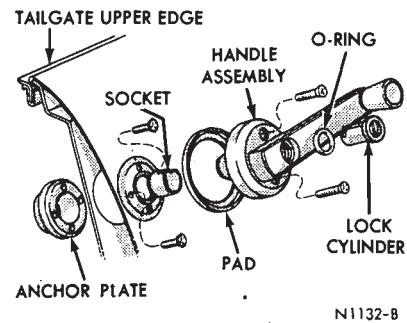

FIG. 11—Tailgate Window Handle and Lock Cylinder—Fairlane and Montego
- With the tailgate window in the closed position, unlock the tailgate handle, and rotate the handle assembly to reveal the mounting screws (Fig. 11).